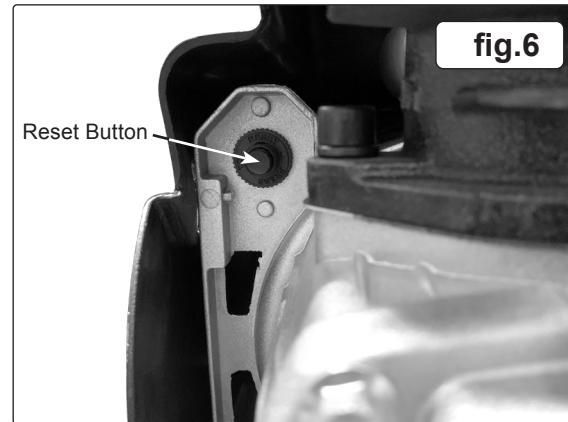

fig.6
5.15.1. THERMAL CUT OUT: If the unit overheats the thermal cut out will operate and shut the unit down. Allow the unit to cool down then press the reset button, located just inside the pump cover (fig.6).